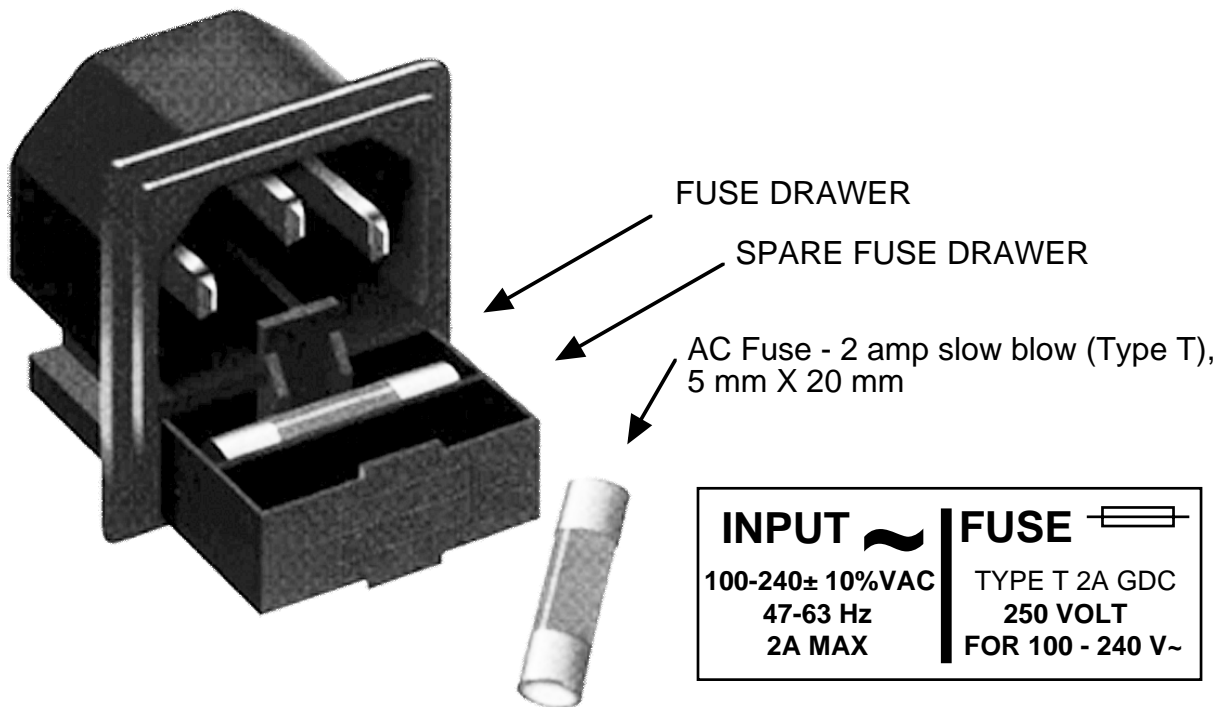

## **FIGURE 2.3 2016-37-T Front Panel Controls and Indicators**
Figure 2.3 shows the front panel controls and indicators.
6. Be sure DS6 (green, DC Power) is on and DS3 (red, Alarm) is off (Figure 2.3).
Alarm indications appear on the LEDs (see figure 2.3).